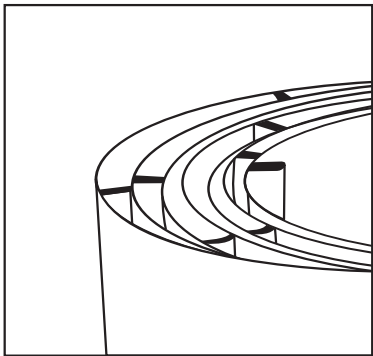

Fig. 2
- Connecting: For use when utilizing as a **dual purpose water/root barrier** or surround application. Connect the ends by overlapping two 6" (15cm) sections with the leading rib cut directly down the middle glue the surface using Century sealant or 1" two-sided tape: See figure 2 & 3. For surround, install by encircling the root ball.